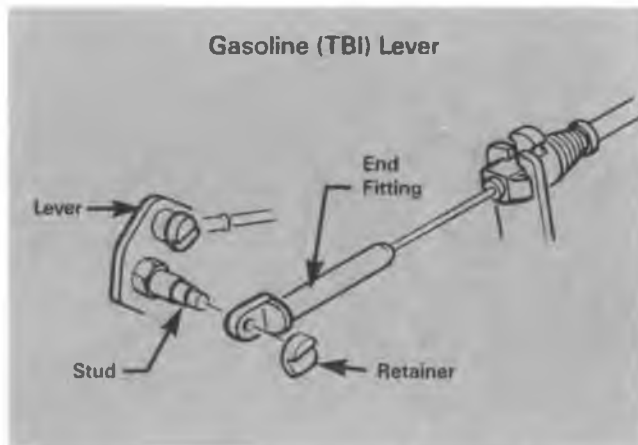

Figure 7-5B Cable Installation
B. Attach cable engine end fitting to lever stud and install retainer clip (Figures 7-5B, 7-7).
- Step 1 Disconnect cruise cable engine end from lever stud (Figures 7-5B, 7-7).
- Step 1 Reconnect cable to lever stud (Figures 7-5B, 7-7).